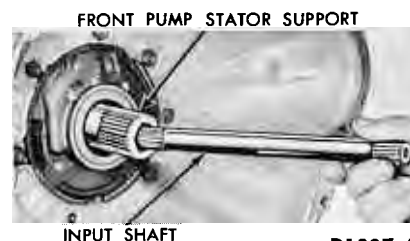

FIG. 37—Removing or Installing Input Shaft
7. Remove the dial indicator and remove the input shaft from the front pump stator support (Fig. 37).